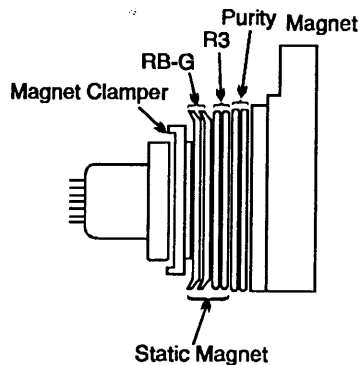

Fig. 5
**XII. CONVERGENCE ADJUSTMENT ( IF NECESSARY ) ( SEE FIG.5 )**